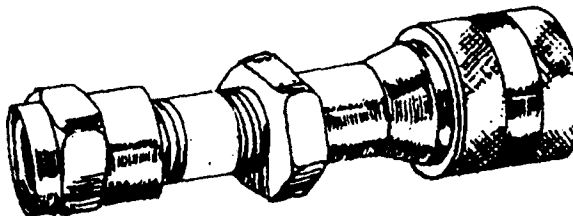

FIGURE 2-2. Garden Hose Adapter.
- c. Remove the power cord and the garden hose adapter (figure 2-2) from inside the WRS.
- i. Attach the garden hose adapter (figure 2-2) to the garden hose by screwing it onto the male end of the hose.